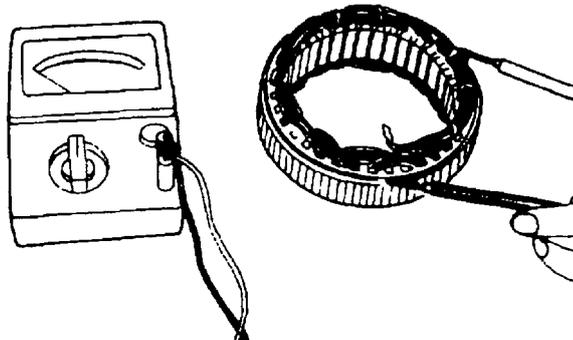

Figure 296 Stator Coil Earth Test
- (7) Check for continuity across one of the stator coils and stator core (Figure 296). If continuity exists, replace the coil assembly.